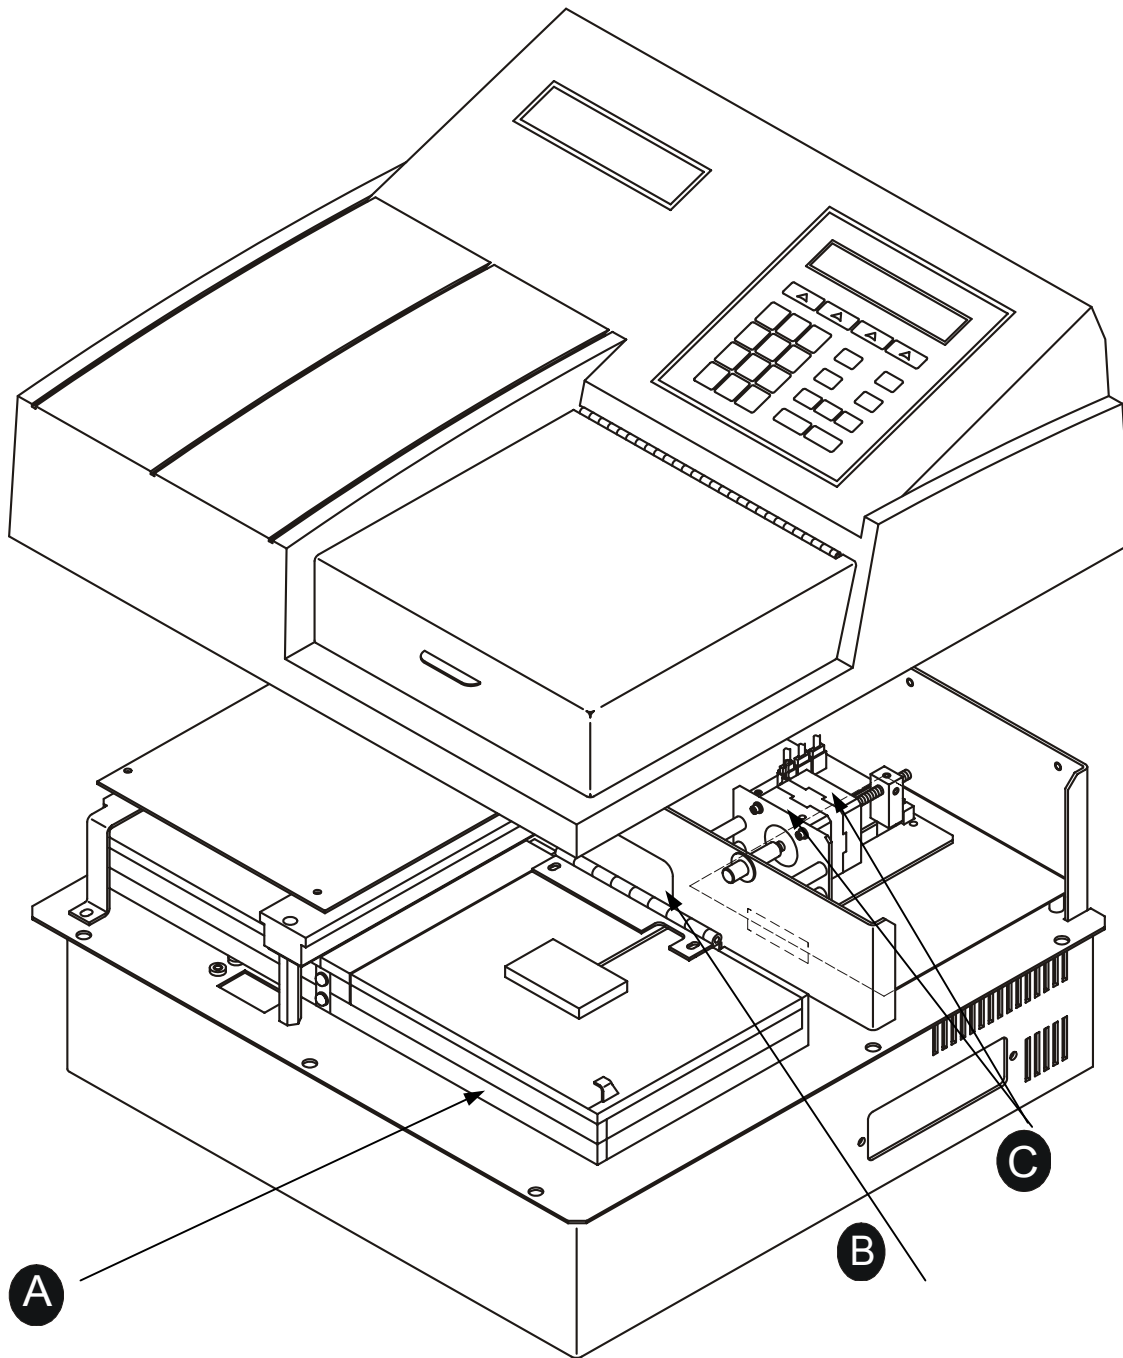

FIGURE 1
- Lubricate the components shown in Figures 1 and 2 every six months, or after 10,000 cycles, according to the following instructions.